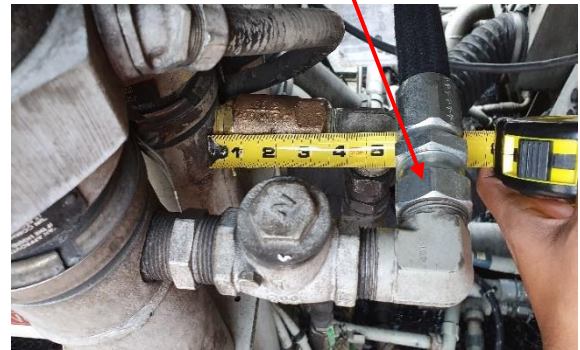

Fig. 7
- Remove the water heater hose at the heater outlet's JIC connector (see Fig. 7)